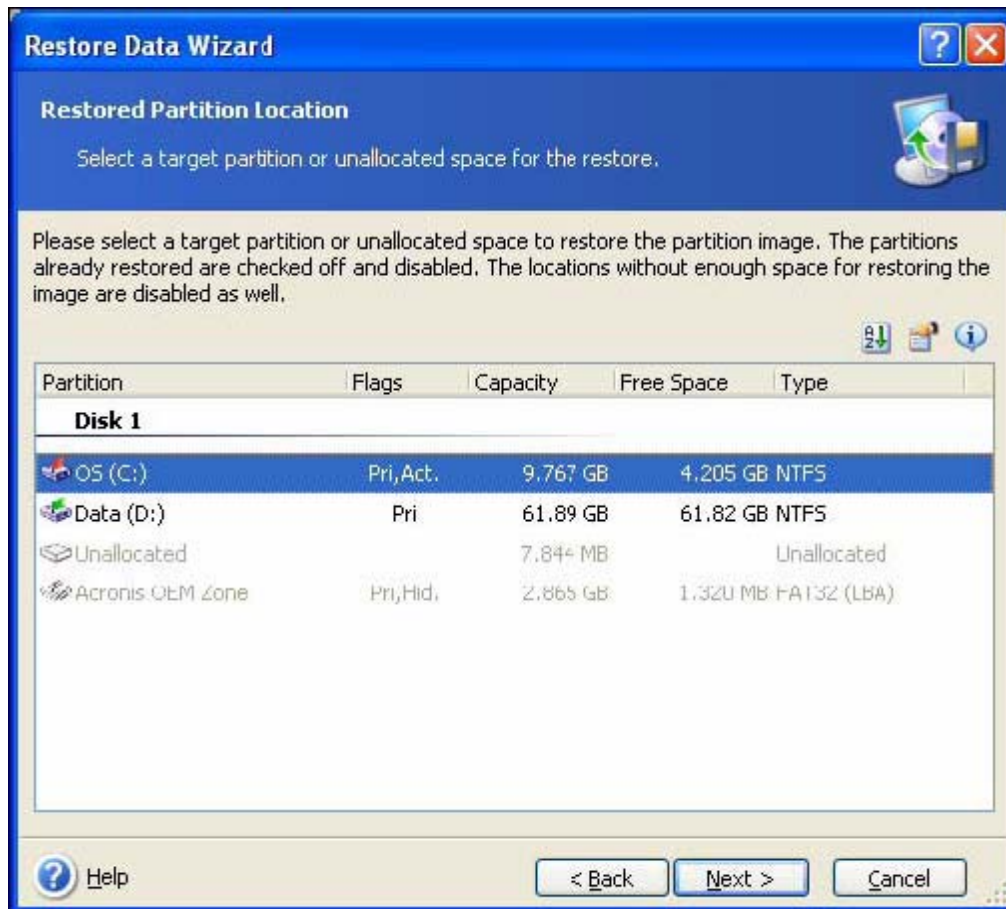

Figure B-10 Select Target Partition
- 14) Examine the summary presented, particularly to confirm that under *Deleting partition*, Drive letter: indicates C: and not D:. If it says D:, click **<Back** repeatedly until the dialog box as seen in Figure B-10 appears. Select C: in Step 7, and continue.